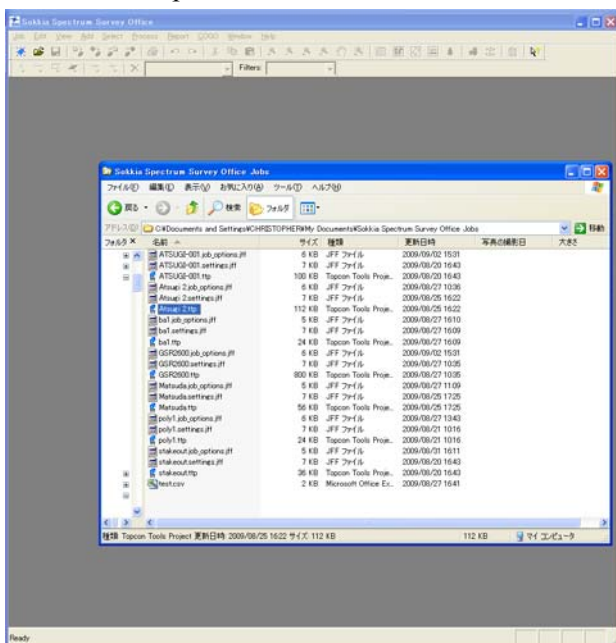

Figure 1-18. Open File Using Drag-and-drop
3. Drag-and-drop the file(s) to the open Spectrum Survey Office software (Figure 1-18).